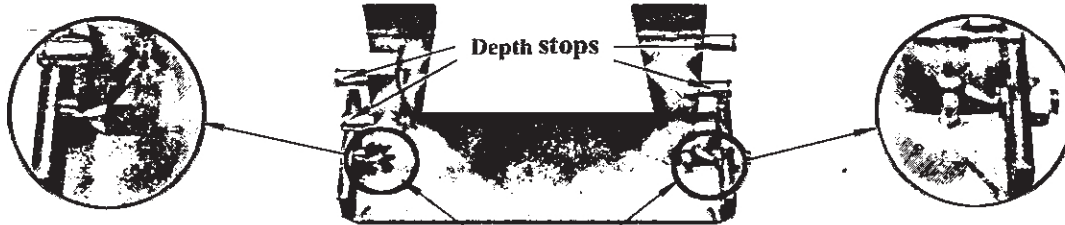

Fig.3
3.2.4 Open the calipers so the pointed anvils mate with the gauging plates on the calibrating gauge. (fig.3.)
3.2.6 Place the callipers on the calibrating gauge as in fig.3 and press the zero button.
3.3.3 To achieve this, measure the drum using the ends of the arms as depth stops, or use either the upper or lower of the depth stops (fig.3.) on the drum face.